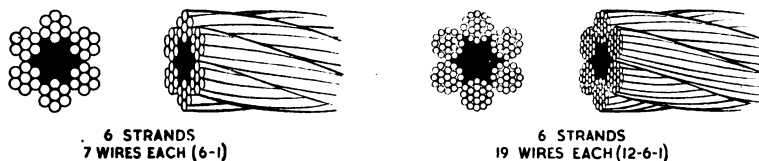

Fig. 77.—Steel wire rope for standing rigging
(1) *Steel Wire Rope* (S.W.R.) (Fig. 77). This is used for standing rigging such as shrouds and funnel guys, and so is not required to be flexible. Its strands are therefore each made up of a small number of large-gauge wires, wound round a steel wire core.